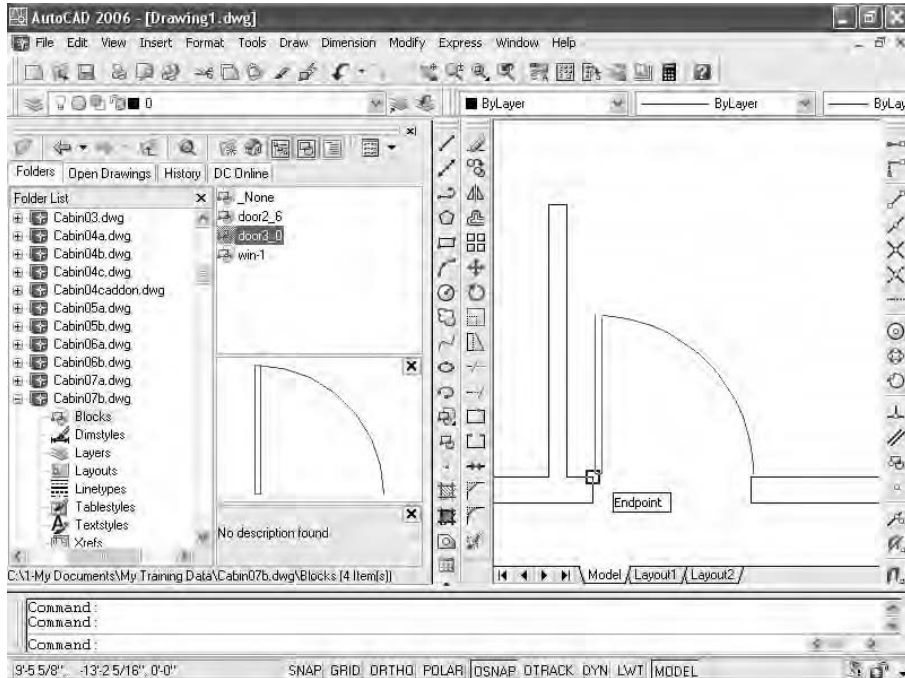

FIGURE 7.43: Dragging the door3_0 block into Drawing1 from the DesignCenter
5. In the DesignCenter, left-click and drag door3_0 from the list over to the drawing. As the cursor comes onto the drawing, the door3_0 block appears. Use Endpoint Osnap to locate the block at the opening, as you did earlier in this chapter (see Figure 7.43).